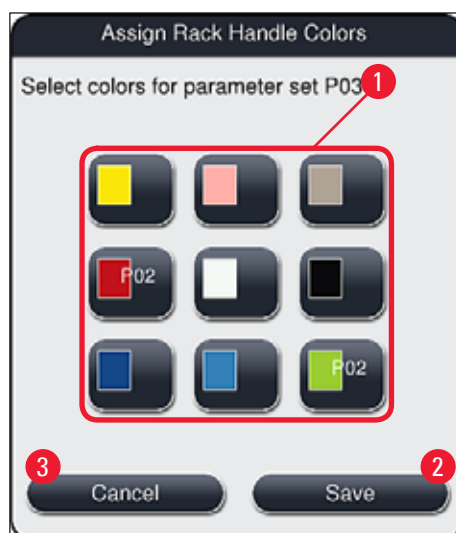

Fig. 45
2. Pressing the **Color** (→ Fig. 44-2) button displays a selection field (→ Fig. 45), that allows the assignment of the rack handle color to the selected parameter set.
- All available colors are displayed in Figure (→ Fig. 45). If an abbreviation is entered in the color field, this color has already been assigned to a parameter set.